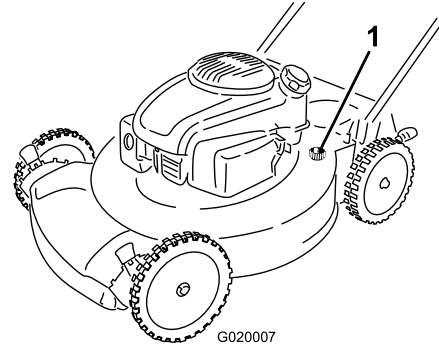

Figure 31
4. Attach a garden hose that is connected to a water supply to the washout port on the machine housing (Figure 31).